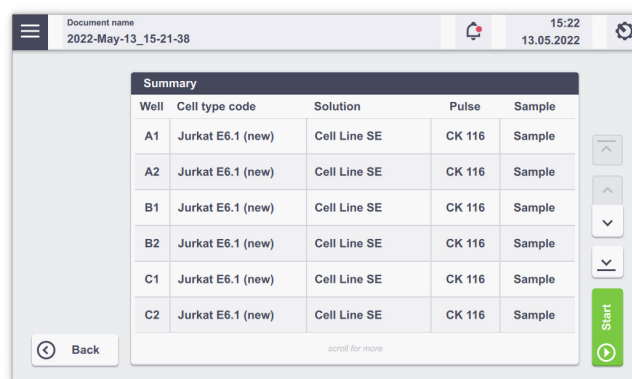

Figure 2.27: Summary screen after experiment setup.
1. After loading the samples, press “Start” to run the experiment (Figure 2.27).